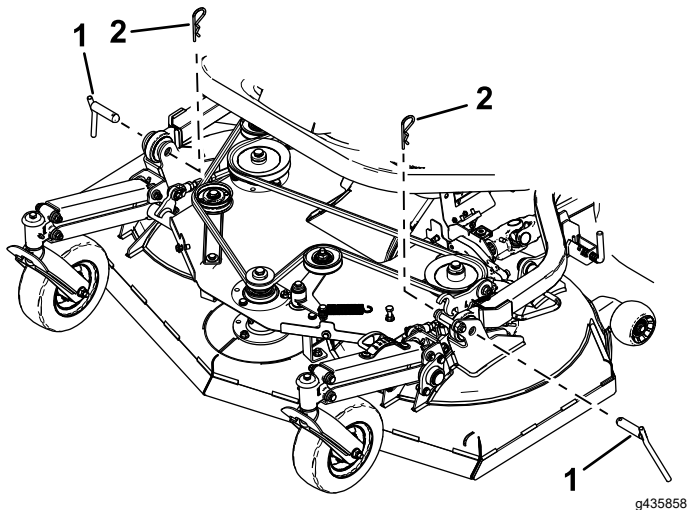

Figure 92
10. Remove the 2 hairpin cotter pins and 2 clevis pins that secure the lift arms at each side of the cutting unit (Figure 92).
5. Install the hairpin cotter pin and clevis pin to secure the lift arms on each side; refer to Figure 92.